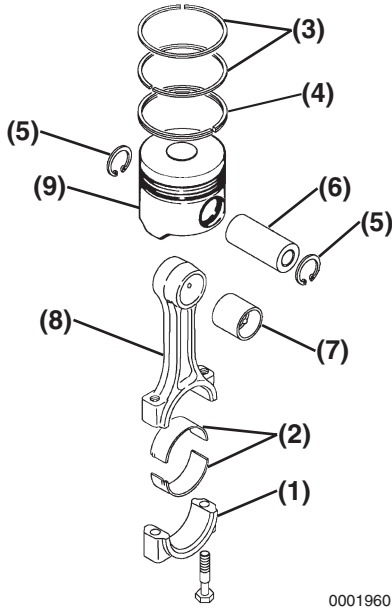

Figure 6-133
1. Lubricate and reinstall the wrist pin (Figure 6-133, (3)) through the piston and connecting rod.
2. Reinstall the second circlip (Figure 6-133, (4)) and ensure it is securely seated in the groove.